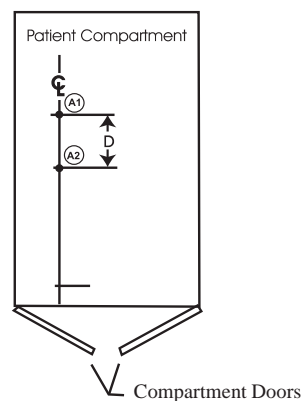

Figure 7 - Measurement D and Antler Point A2
3. Starting from Antler Point A1, measure along the Centerline toward the rear compartment doors and mark a point for Measurement **D** (Figure 7). Label this point as Antler Point A2.